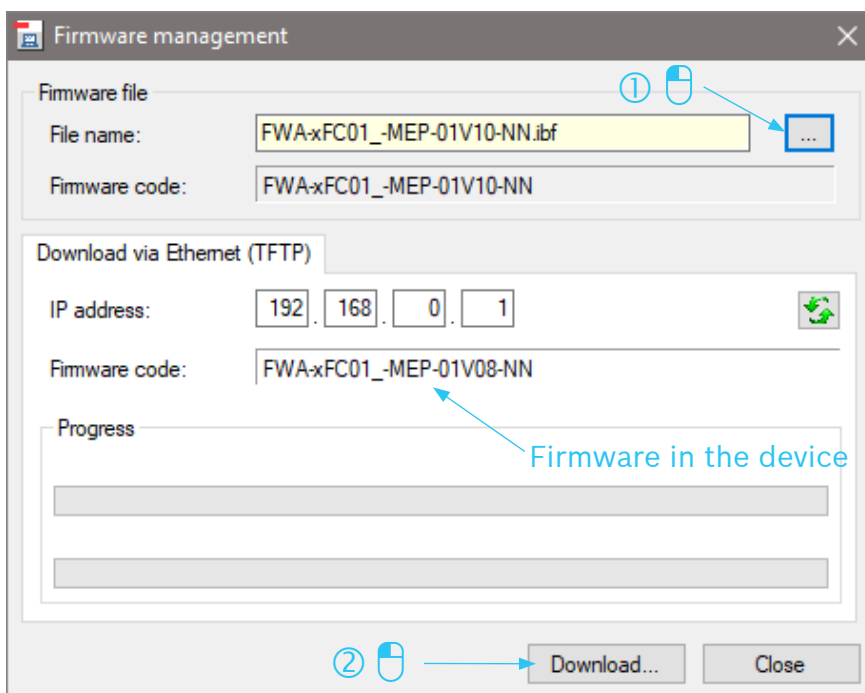

Fig. 15: Firmware update MEP window
- ▶ Click on "..." to navigate to a firmware file (\*.ibf) and download it to the device by clicking on "Update" (see Fig. 15: Firmware update MEP window).